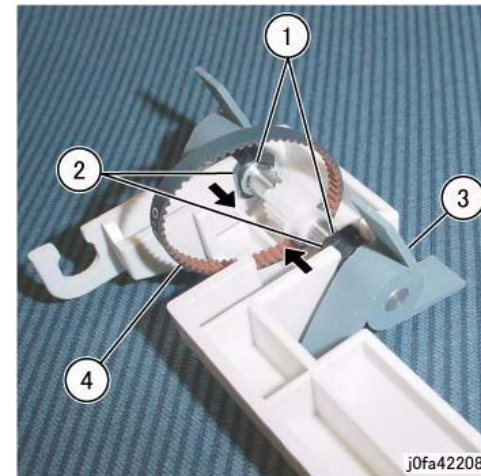

Figure 8 Removing the Paddle Belt (j0fa42208)
10. Remove the Paddle Belt. (Figure 8)